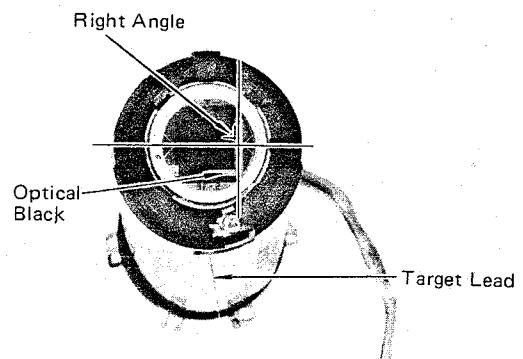

Fig. 4-2
- Make sure that the vidicon is oriented in the correct direction i.e., the optical black on the vidicon is on the right and perpendicular to the horizontal line between the centers of the protruding parts of deflection coil when the target lead is positioned at the bottom, as shown in Fig. 4-2.